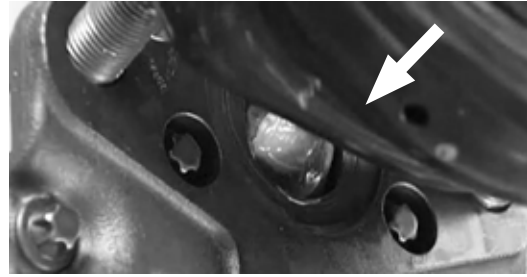

Figure 50: Installing brake chamber
6. **Place** the brake chamber onto the brake caliper (Figure 50).